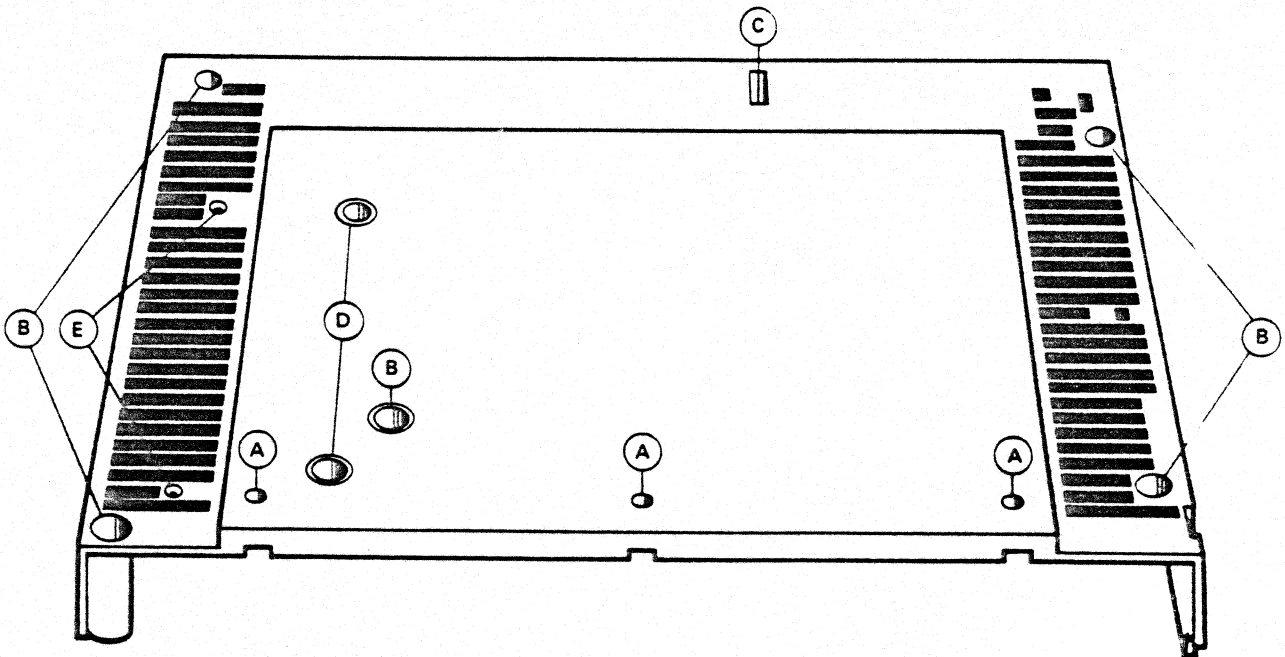

Figure 5-1. System Unit Cover Screws
3. Remove the 5 phillips-head thread-forming screws located in the deep sockets (screw B). Refer to figure 5-1 for locations. After removing the screws keep them in a safe place such as a paper cup.
4. Using a small magnetic screw driver remove the machine-screw as shown in figure 5-1.
4. Remove the 3 phillips pan-head machine screws that hold the Front Panel in place. They are located on the bottom of the Front Panel (see figure 5-1).
1. Loosen the 4 Power Supply screws (it is not necessary to remove them). See figure 5-1 for screw locations.